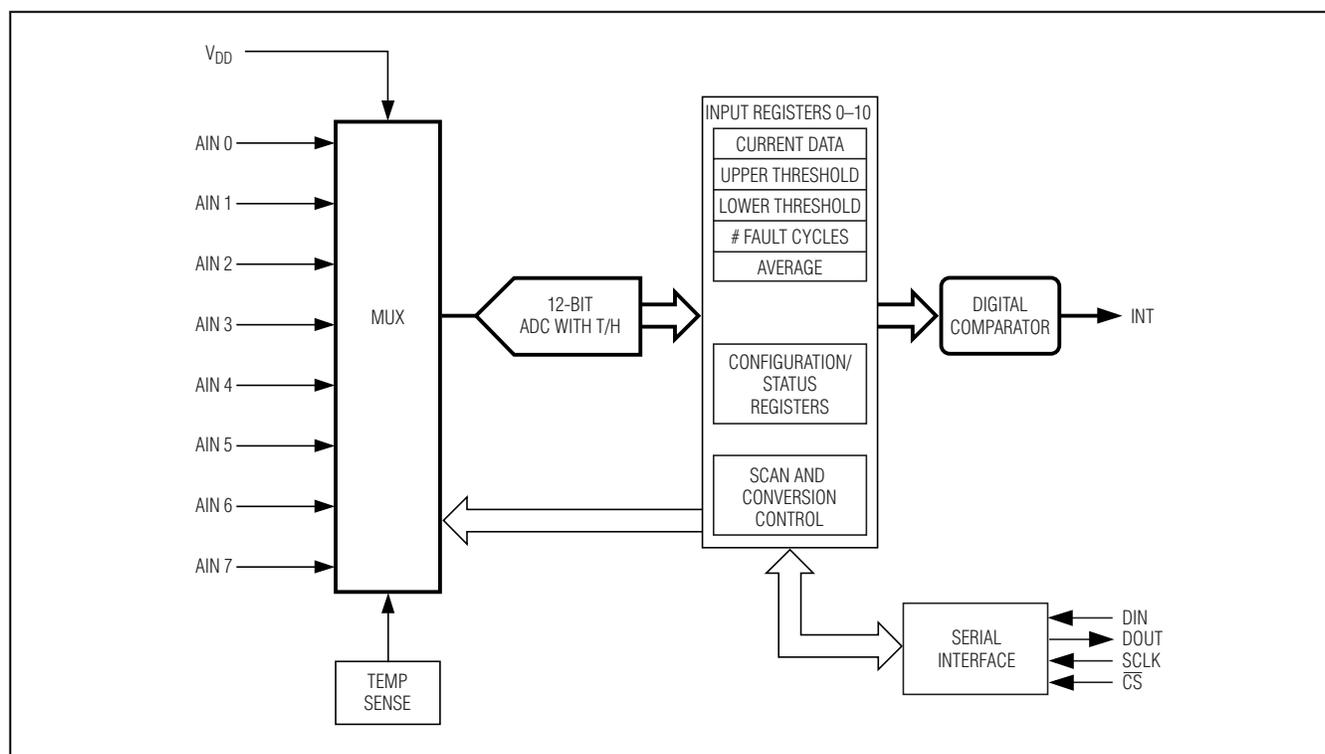

Figure 3. Simplified Alarm Block Diagram of the MAX1153/MAX1154
- Note 7:** See Figure 3 and the Sampling Error vs. Input Source Impedance graph in the *Typical Operating Characteristics* section.
The MAX1153/MAX1154 are precision-monitoring integrated circuit systems specifically intended for stand-alone operation. They can monitor diverse types of inputs, such as those from temperature sensors and voltage signals from pressure, vibration, and acceleration sensors, and digitize these input signals. The digital values are then compared to preprogrammed thresholds and, if the thresholds are exceeded, the processor is alerted by an interrupt signal. No interaction by the CPU or microcontroller ( $\mu\text{C}$ ) is required until one of the programmed limits is exceeded (Figures 3 and 4).